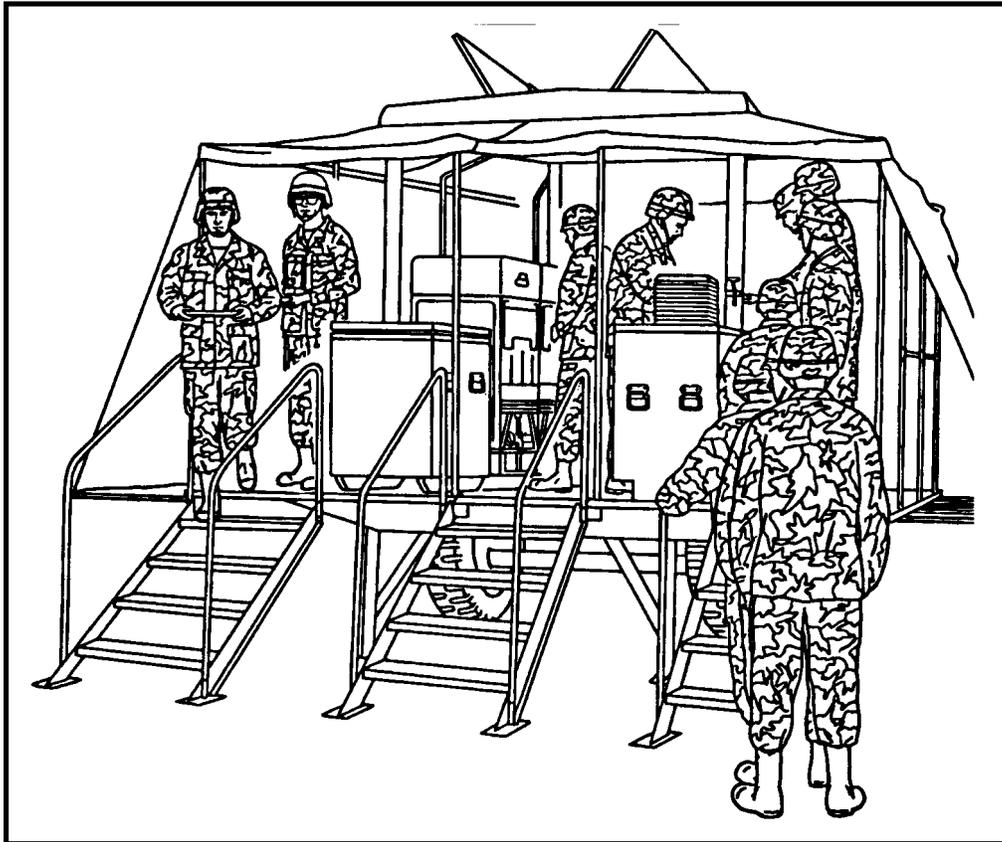

Figure 2-4. Trailer-mounted field kitchen with U-shaped serving line.
- (3) When using the MKT, use a U-shaped serving line. (See Figure 2-4.)